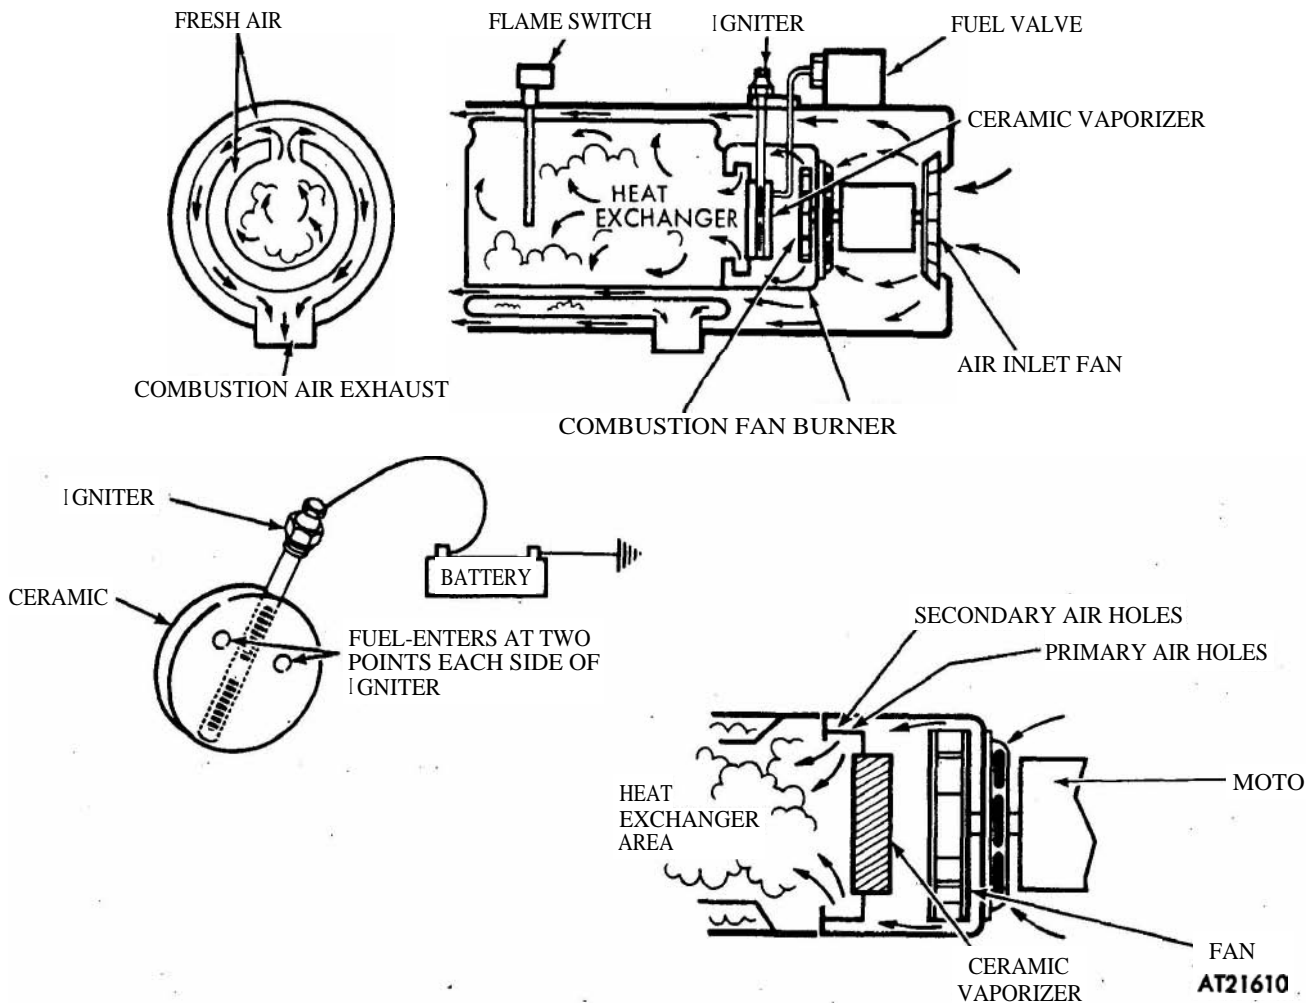

Figure 3-237. Ambulance heater, functional schematic.
b. *Heater.* The heater is clamped to a mount at the forward end of the carrier and is provided with a heat shroud for protection of personnel. It is a forced-fresh-air, fuel burning heater that will deliver 18,000 BTU in low fire condition and 30,000 BTU of heat in high fire condition. Operation of the heater is as follows (fig 3-237).